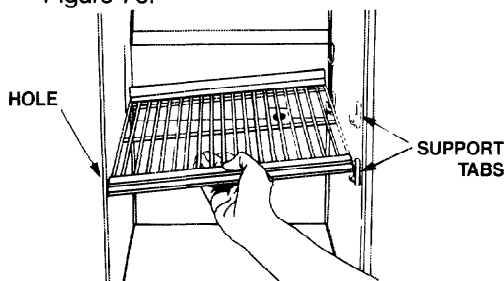

FIGURE 76
3. Select the desired shelf height and insert the shelf rods into the holes on the left wall, lower the shelf onto the support tabs and press down until the shelf snaps into place. See Figure 76.